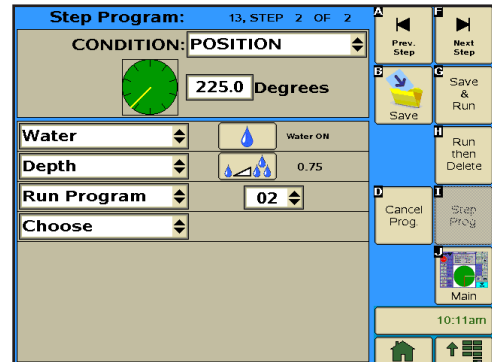

Figure 150-1
8. Program the position condition for this step. Refer to Figure 150-1.